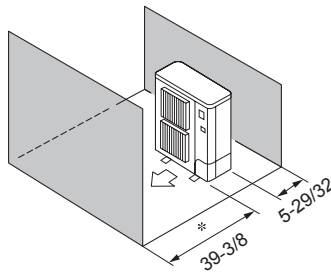

Fig. 3-9
⑤ Obstacles at front and rear only (Fig. 3-9)